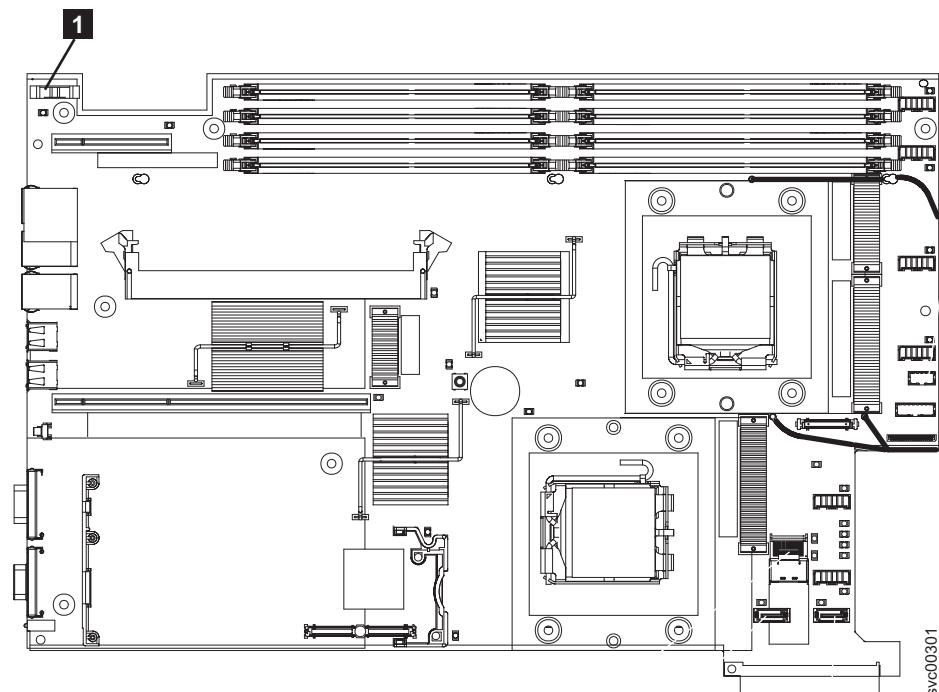

Figure 137. Location of the SAN Volume Controller 2145-8G4 CMOS battery holder
4. Locate the battery **1** on the system board. Figure 137 shows the location of the battery.